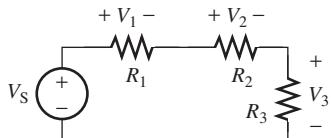

FIGURE P3.16 Circuit for Problem 3.16.
- 3.16 (B)** Find V_1 , V_2 , V_3 in Figure P3.16.